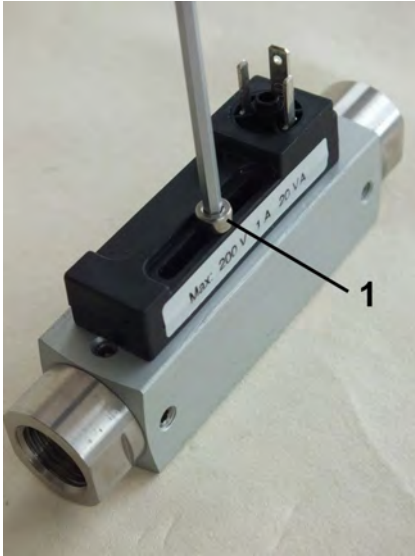

Fig. 55: Loosen set screw
3. ➔ Using a hex screwdriver (Fig. 55/1) remove the set screw of the switch contact
7. ➔ Insert set screw (Fig. 55/1) and tighten it slightly so that the switch contact can still move easily
9. ➔ Retighten the set screw (Fig. 55/1) observing the proper tightening torque (  Chapter 11.1 "Tightening torque" on page 72)